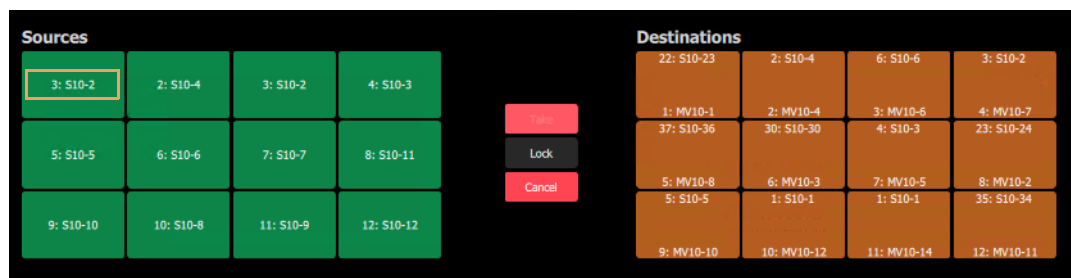

Fig. 6-30: Running XY Panel
- 8 The XY Panel runs and the newly-assigned Source is assigned to the Source button, see Figure 6-30.